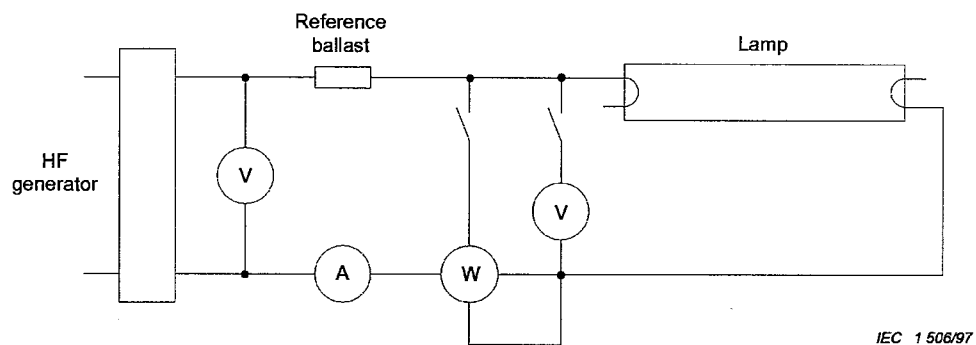

Figure B.3 – Circuit diagram for measurement of electrical and photometric characteristics for lamps for operation on high frequency
- figure B.3 for lamps for operation on high frequency.
In the test circuit for lamps for operation on high frequency, given in figure B.3, connections shall be as short and straight as possible to avoid parasitic capacitance. The parasitic capacitance parallel to the lamp shall be less than 1 nF.